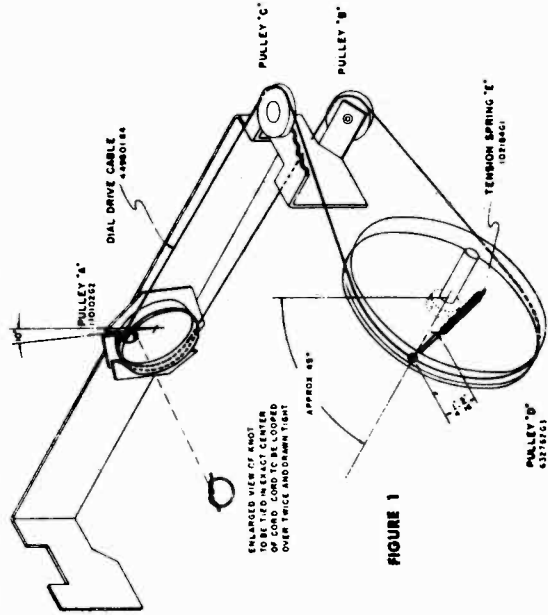

FIGURE 1
method for tying this knot is shown as an inset on Figure 1. Grasp the cable near the knotted end and slide it into the pulley slot as shown in the sketch. The piece of cable nearest the dial frame should be wound in the direction shown for one-half turn; then over the lower pulley "B"; around the bottom of the large pulley "D"; and into the hole. Pull the cable taut and wrap the end around the small hook on pulley "D" temporarily.
1. Remove the signal generator lead from the 6SA7 grid and connect it to the radio antenna terminal through the .00025 mid. capacitor. The ANT-LOOP switch (89) must be in the ANT. setting.
2. Check the tuning dial pointer adjustment. When the plates of the tuning condenser are completely meshed, the dial pointer must be in line with the last calibration mark at the low frequency end of the dial. If it is not, loosen the set screws in the hub of pulley "D" shown on Figure 1 and make the necessary adjustment.